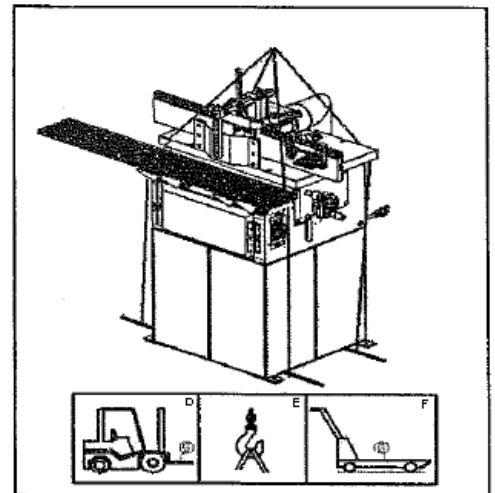

Fig. 1
1. Prepare a high-lift truck (D) or a manual lifting carriage (F) with sufficient lifting capacity.
2. Put the forks (G) below the machine as shown in Fig. 1.